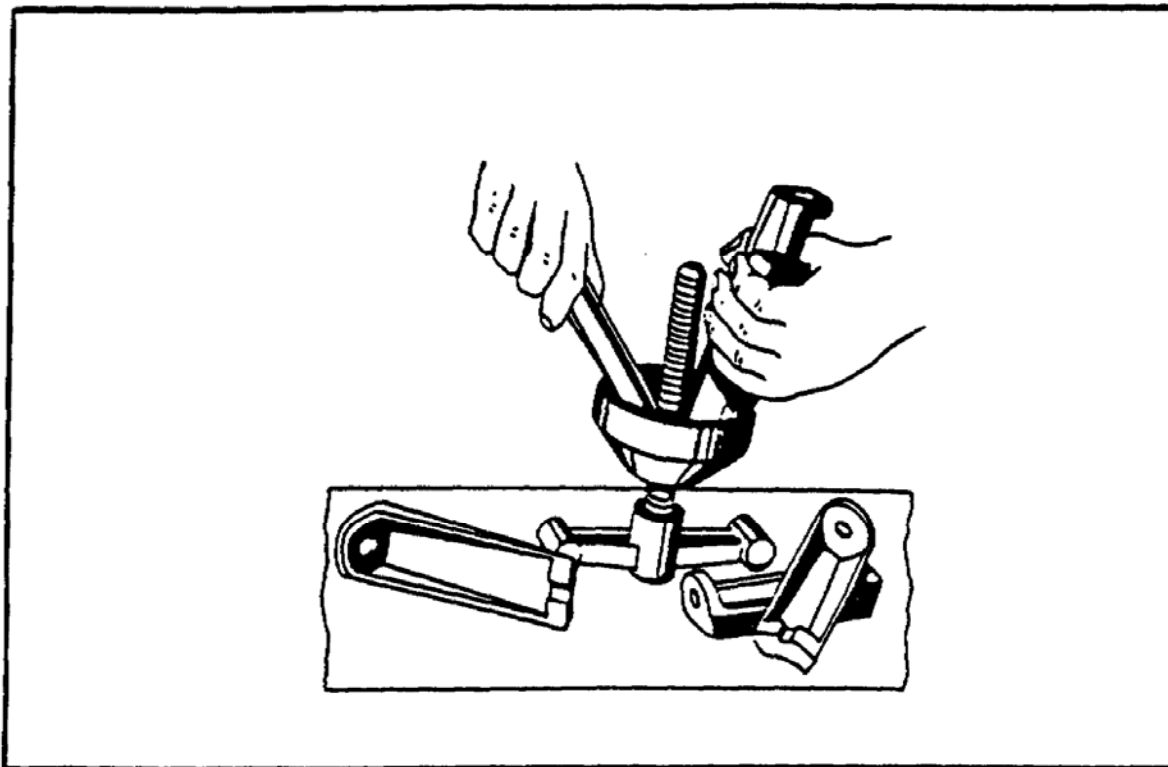
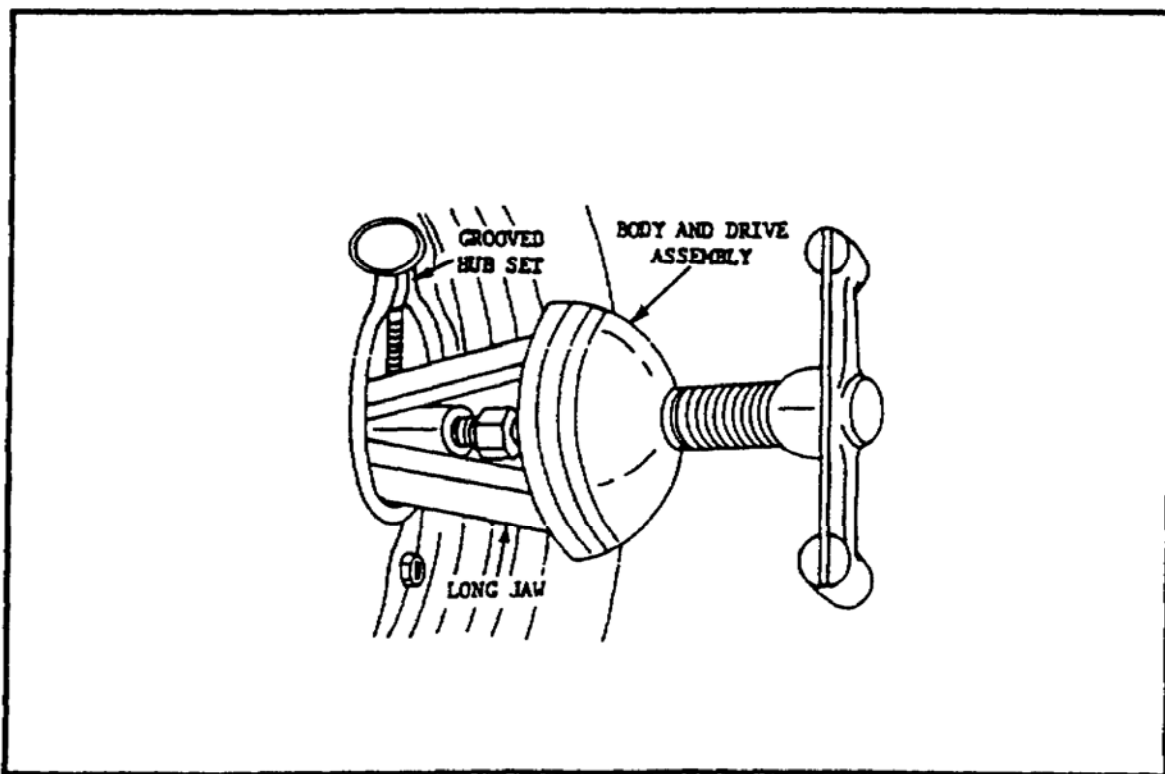

FIGURE 77. INTERCHANGING WHEEL PULLER JAWS.
FIGURE 78. USING WHEEL PULLER AND GROOVED HUB SET.
(5) *Wheel Puller*. The universal wheel puller set is quickly assembled by inserting the proper type jaws and attaching the tool to the wheel stud bolts. To interchange the jaws, hold two jaws together, as shown in figure 77 . This depresses the inner sleeve and allows room to remove or insert other jaws. To pull Ford car or truck wheels, use the three long jaws in conjunction with the special Ford grooved hub set, as shown in figure 78.